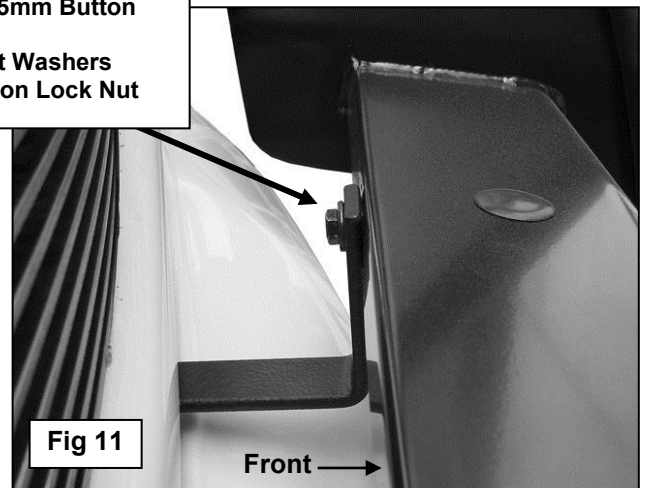

Fig 11
8. Move the Grille Guard into position and line up the Top Mounting Brackets with the mounting slots in the back of the cross bar. Bolt the Top Mounting Brackets to the cross bar with (2) 6mm Button Head Bolts, (4) 6mm Flat Washers and (2) 6mm Nylon Lock Nuts, (**Figure 11**).